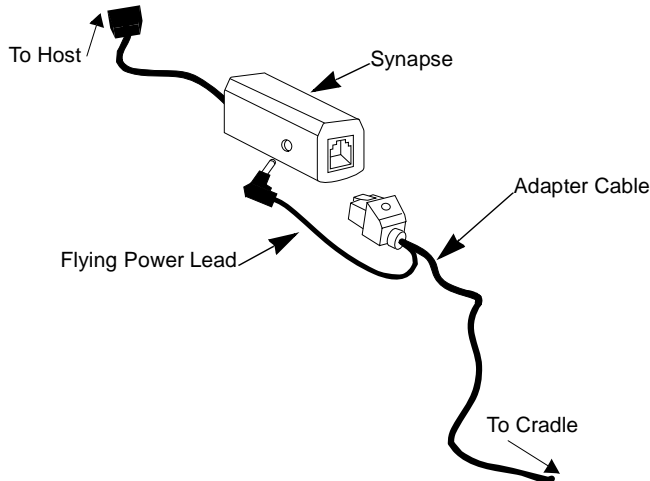

Figure 2-4. Synapse and Adapter Cable
3. Connect the Synapse Adapter cable's flying power lead to the receptacle in the Synapse Interface cable (refer to Figure 2-4).
See the instructions packed with the appropriate Synapse cable. An adapter cable is required. See Figure 2-4 on page 2-6.